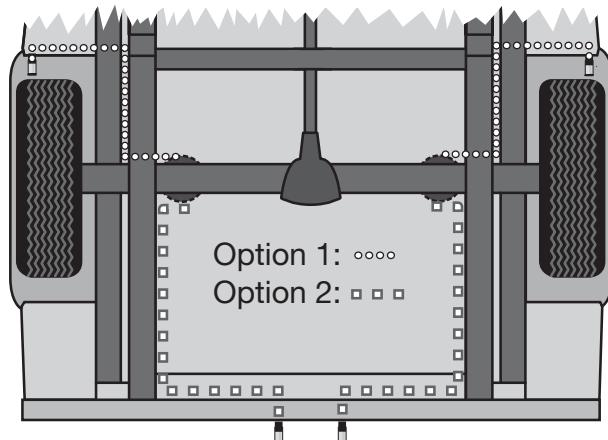

fig. 12
6. Route the air line along the frame to the air fitting on the air spring (Fig. 12). Keep AT LEAST 6" (150mm) of clearance between the air line and heat sources, such as the exhaust pipes, muffler, or catalytic converter. Avoid sharp bends and edges. Use plastic zip ties to secure the air line to fixed points along the chassis. Be sure that the zip ties are tight, but do not pinch the air line. Leave at least 2" (50mm) of slack to allow for any movement that might pull on the air line.